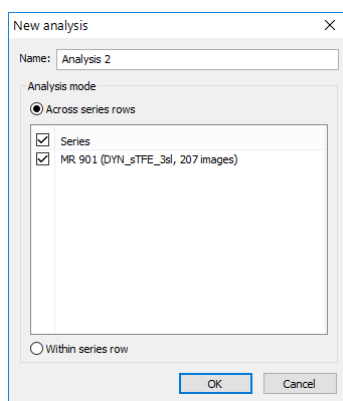

Figure 390 – Creating a new quantitative analysis
3. Click **New...** to open **New analysis** dialog (see Figure 390).